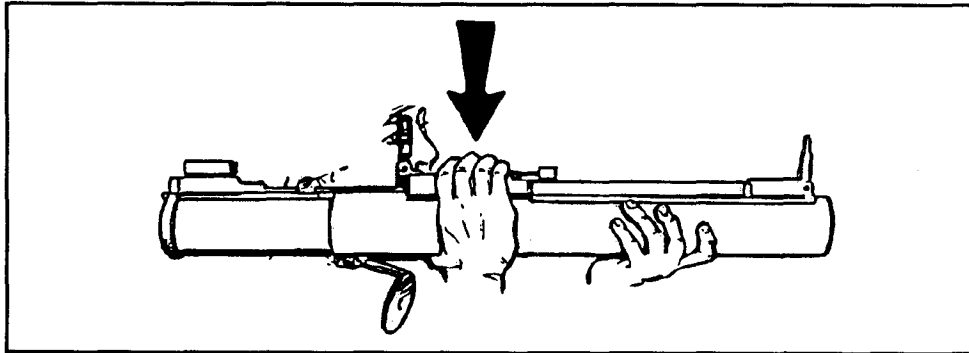

Figure 2-19. Firing the launcher.
b. To fire the rocket launcher, raise it slightly above shoulder level, rotate your body under it, and place it on your shoulder. *Check the backblast area*, pull the trigger arming handle to the ARM position, aim the launcher, and depress the rubber boot on the trigger bar firmly to ensure the launcher fires (Figure 2-19, page 2-14). (If the trigger arming handle will not remain in the ARM position, the launcher is not fully extended.) Pressing the trigger bar causes the firing pin to strike the primer, which ignites the black powder in the flash tube, which in turn ignites the propellant in the rocket motor.